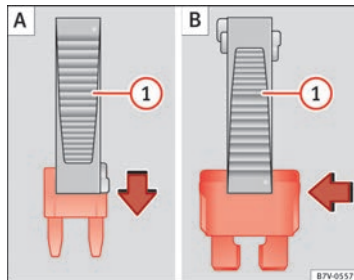

Fig. 204 Removing or fitting a fuse.
- For *small fuses*, insert the pincers from above ⇒ fig. 204 A.
- Replace the blown fuse by one with an *identical* amperage rating (same colour and markings) and *identical* size ⇒ ①.